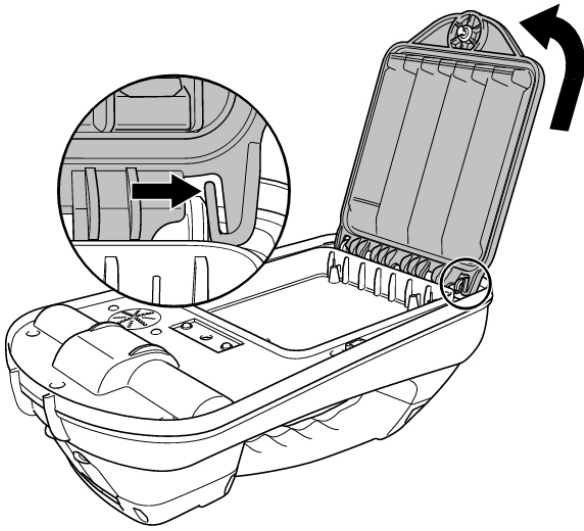

Figure 3.8 Removing the battery compartment of the RD510 locator's pulsed water transmitter
- 3 Release the fasteners (Fig. 3.8) by pressing gently, then lift out the battery pack.